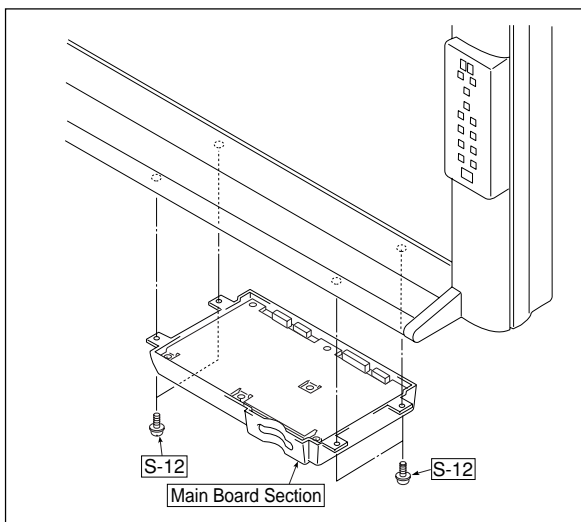

Fig. 4
2. Remove the “S-12” screw shown in Fig. 4 and then remove the Main Board Section.